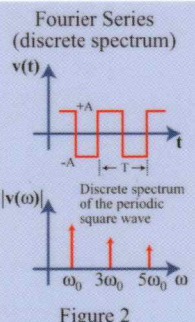

Figure 2
• Examples of signal representation by Fourier series and Fourier transform: A periodic, continuous, non-sinusoidal signal can be represented by a superposition of infinite number of harmonic (sine and/or cosine) wave forms: e.g. Fourier expansion of a square wave: (see Fig.2)